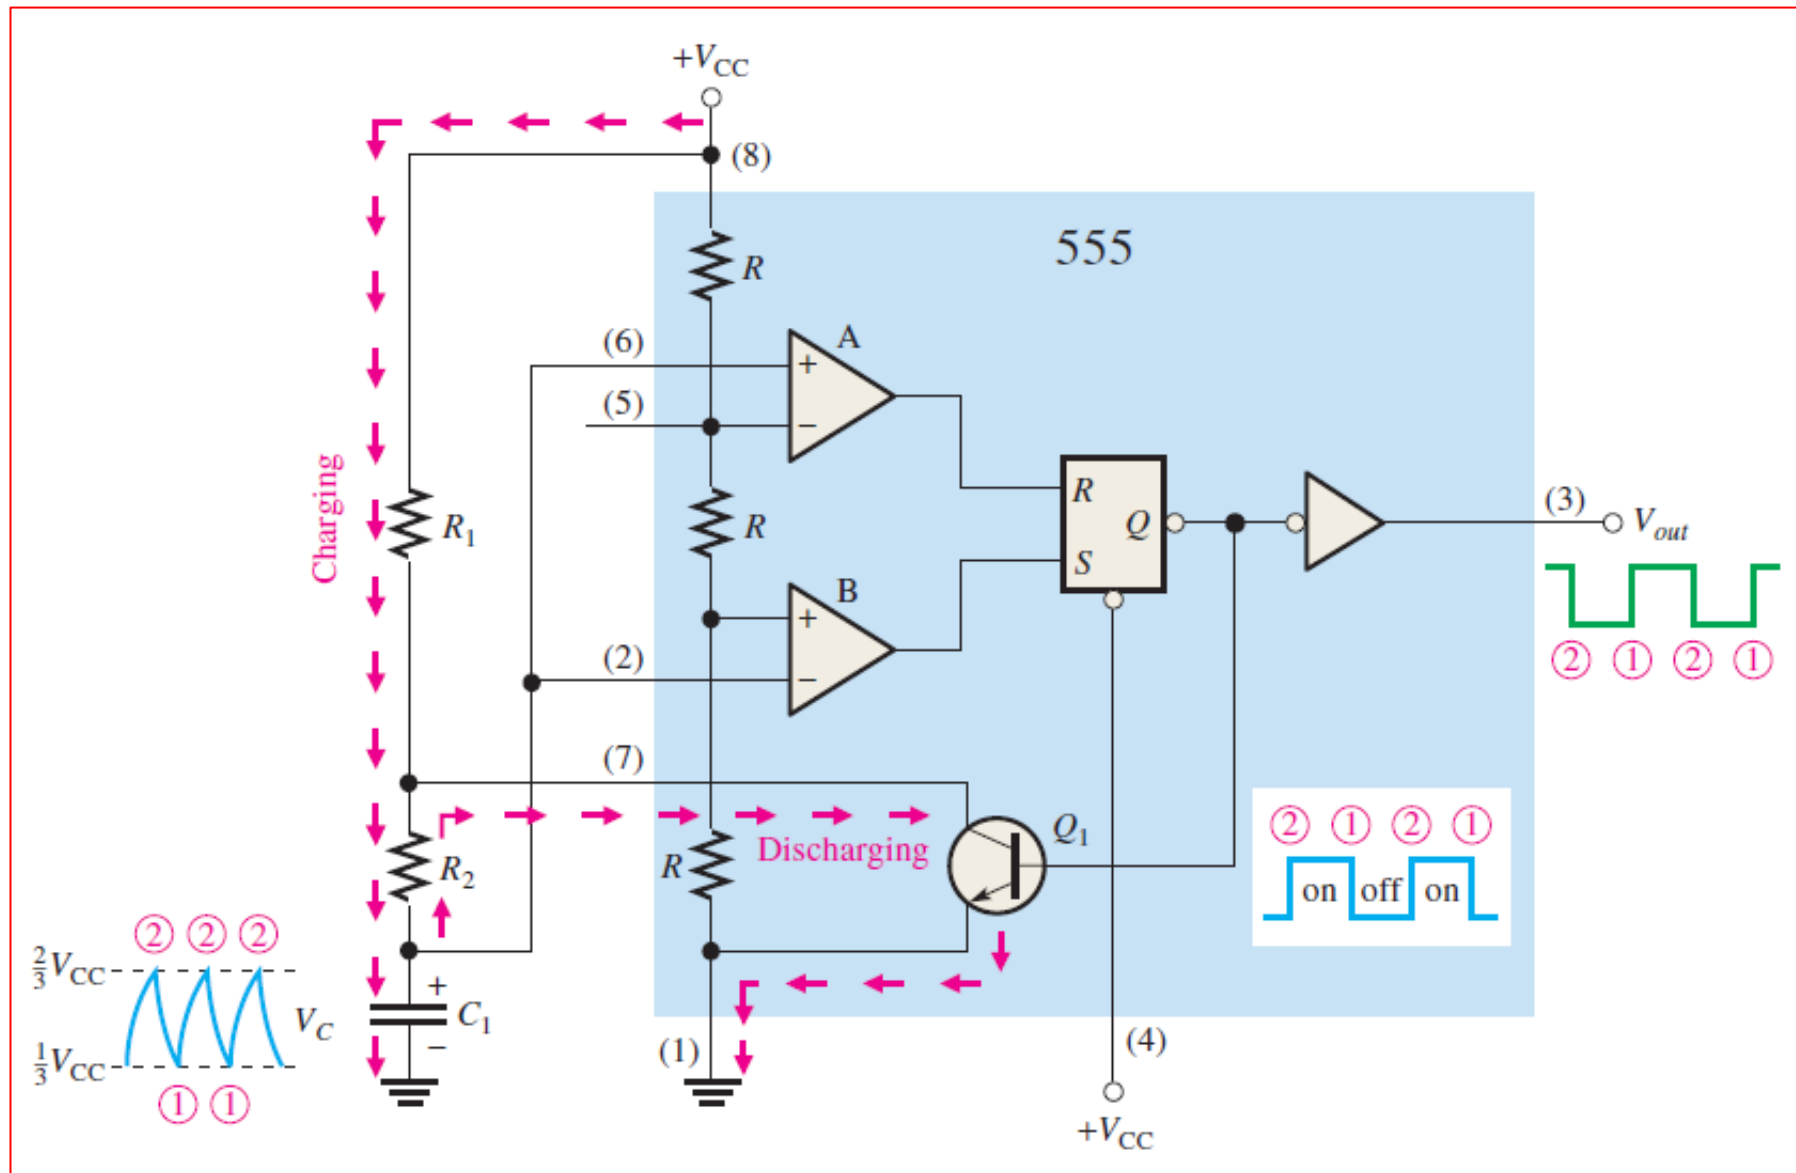

FIGURE 57 Operation of the 555 timer in the astable mode.
- Now, C_1 begins charging through R_1 and R_2 , as indicated in Figure 57.